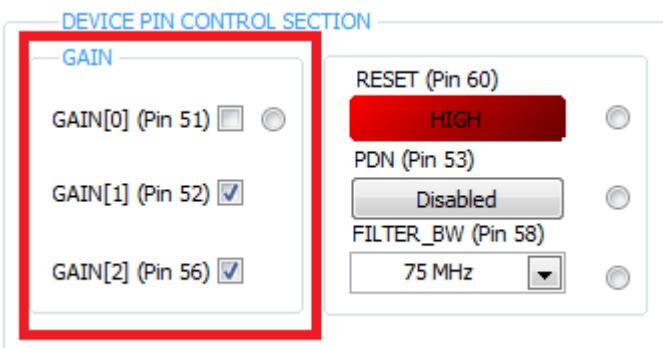

Figure 50. PGA5807 GUI Setup for PGA5807A + ADS5296A Gain Test 4
8. Return to the *PGA5807* tab and change the **GAIN[x]** values in the *DEVICE PIN CONTROL SECTION* to 18dB as shown in Figure 50.